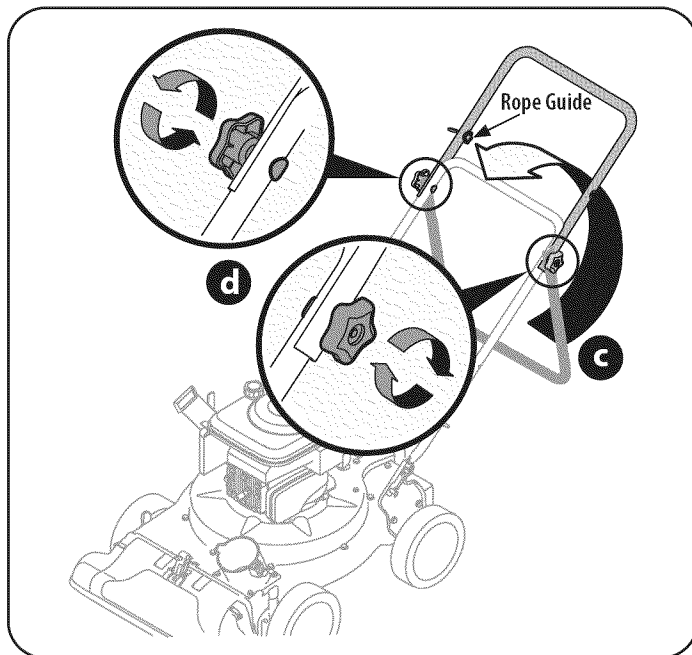

Figure 3
- c. Unfold the upper handle until it aligns with lower handle. Make sure the rope guide is on the right side of upper handle. See Figure 3.
- d. Secure the two handles by tightening the handle knobs (carriage bolts must be seated properly into the handle). See Figure 3.